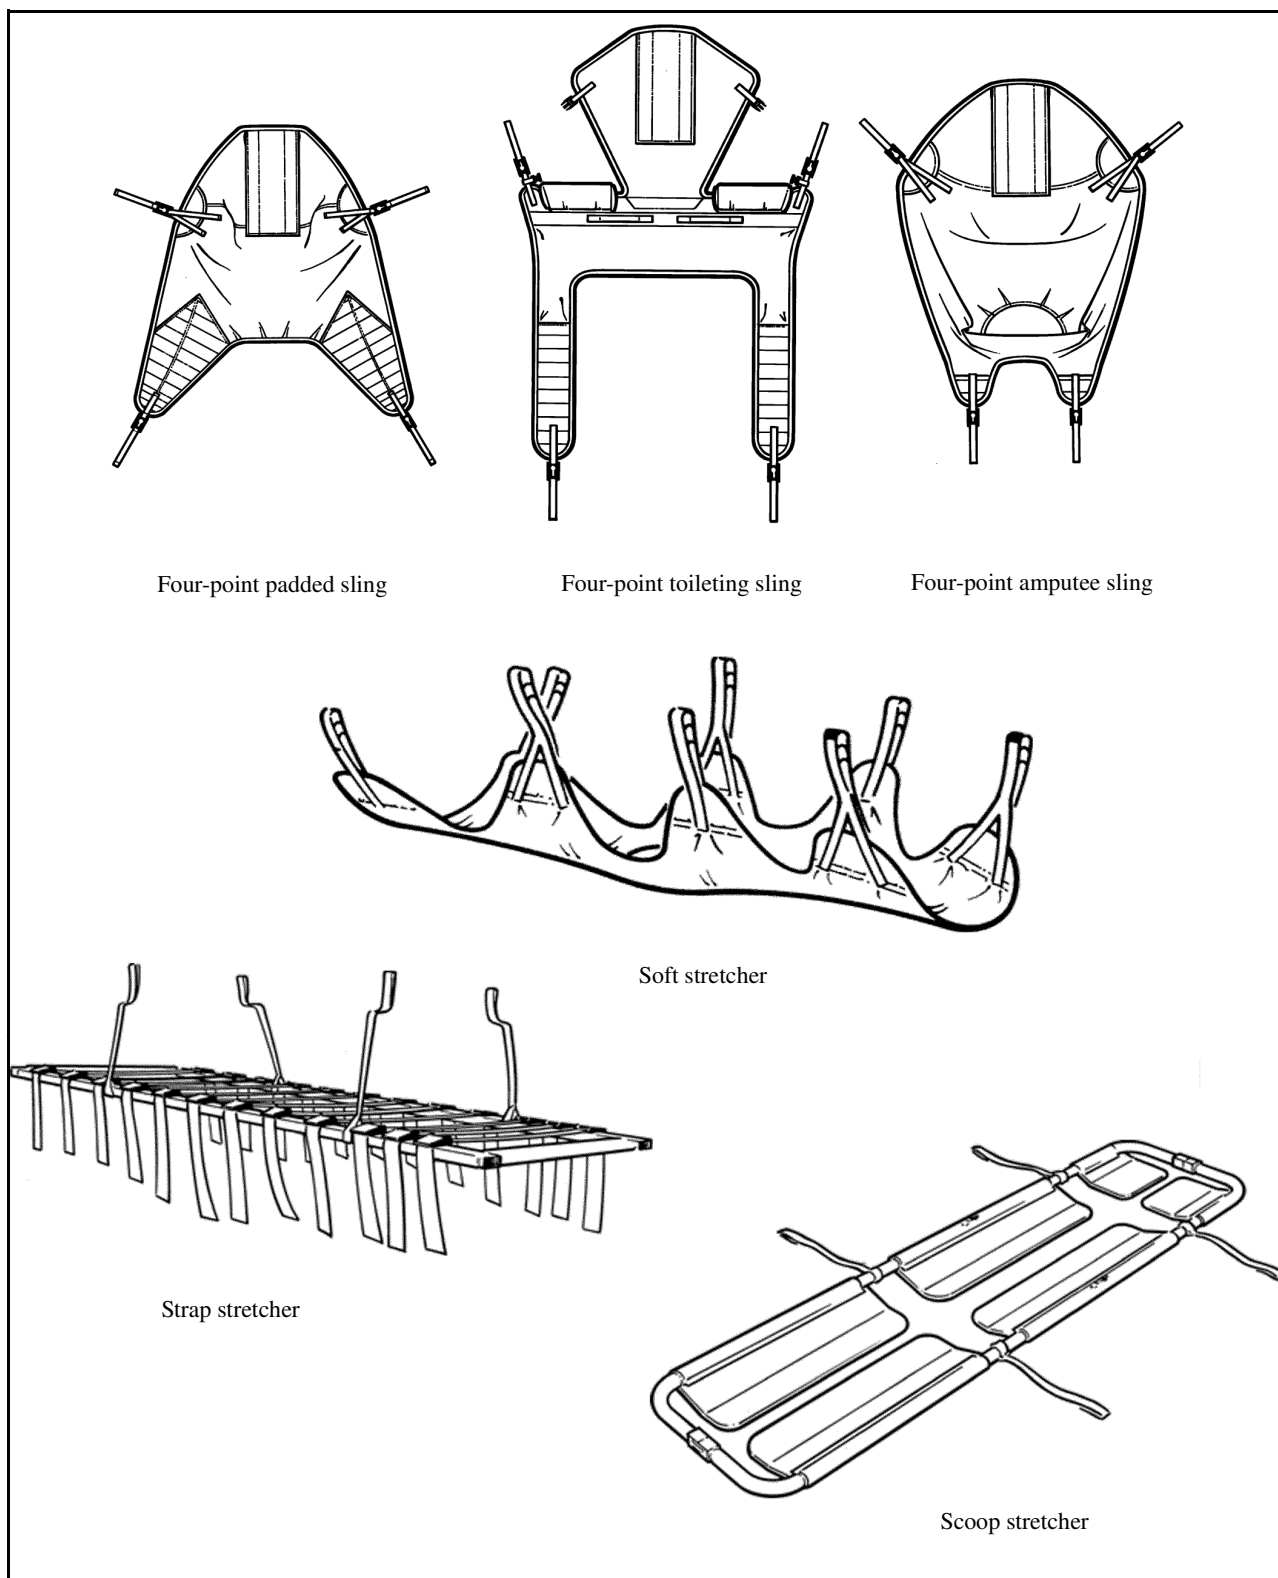

Fig. 5
**WARNING: Only use ARJO supplied slings and stretchers that are designed to be used with Maxi Move. The sling profiles illustrated (see Fig. 5) will help to identify the various ARJO slings and fabric stretchers available.**